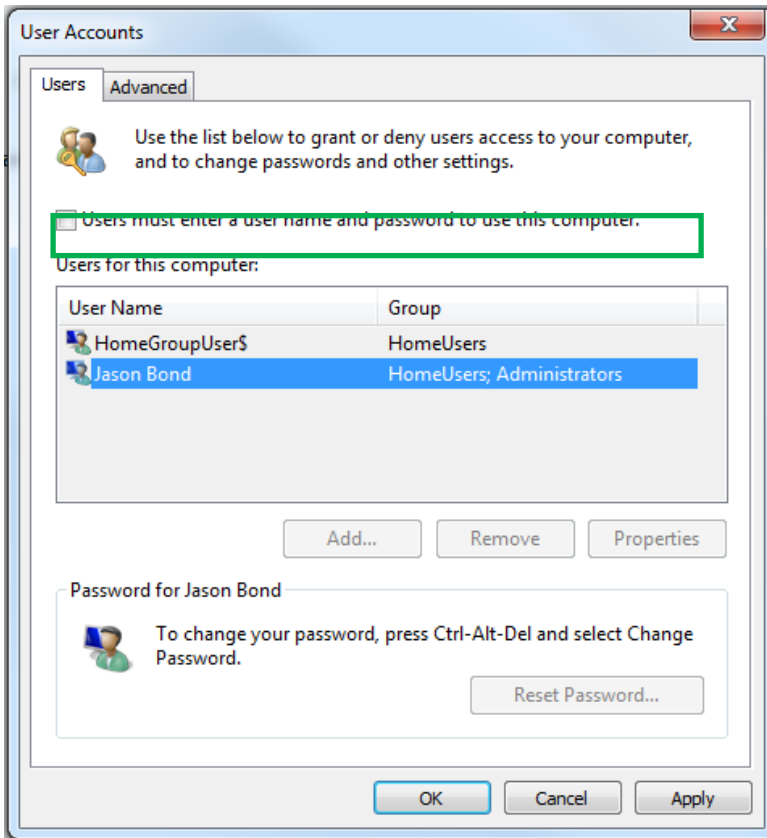

Figure 7: Enabling Automatic Login
- b. Check “Users must enter a user name and password to use this computer.” (Figure 7)